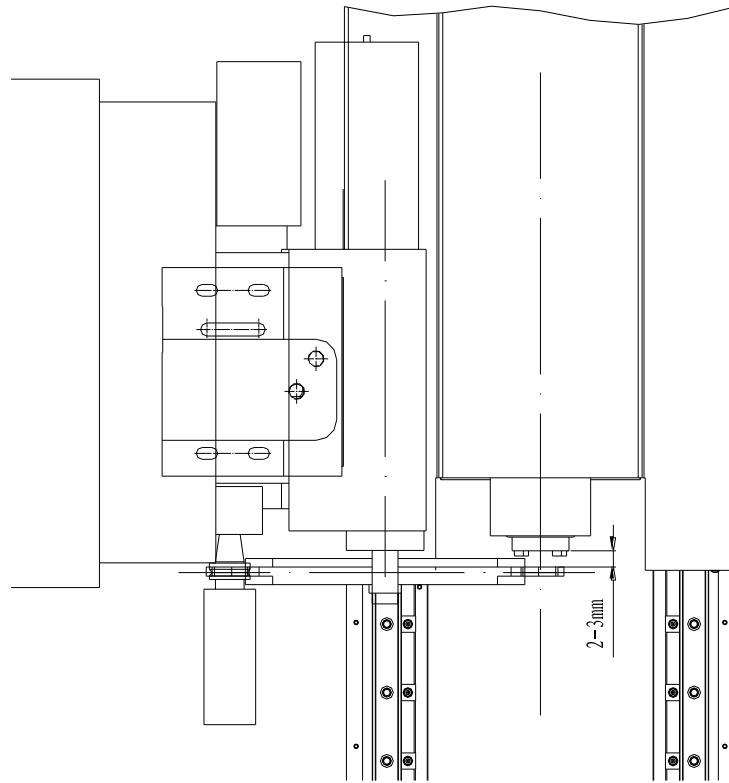

Figure 4.3 Tool Adjustment
7. Adjust the spindle box to ensure that the end of spindle is 2~3 mm away from the surface of chuck, where is the actual tool change point, mark the position, as shown in Fig. 4.3.